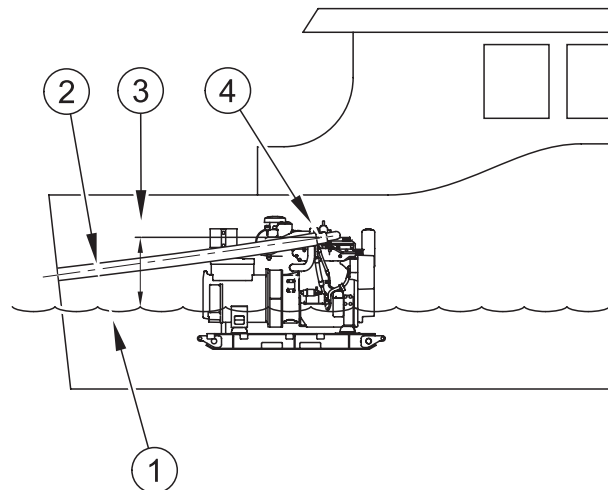

Figure 20
A general arrangement for such a system is shown on illustration figure 20. In many cases the exhaust outlet passes through the transom, just above the waterline (1). It will be seen that a fall of 10° (2) is required, and that the point of water injection (4) must be at least 8 inches above the waterline (3), although the actual height necessary for a particular boat can only be decided in the light of the exhaust system design, and the pitch and roll which may be encountered in service.